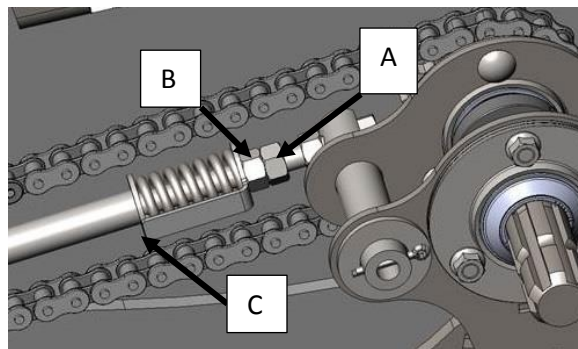

Figure 51
8. To adjust the chain, loosen the locknut (A) on the adjustment rod. Figure 51
9. Turn the adjustment nut (B) until the tension indicator is flush with the washer at the end of the spring.